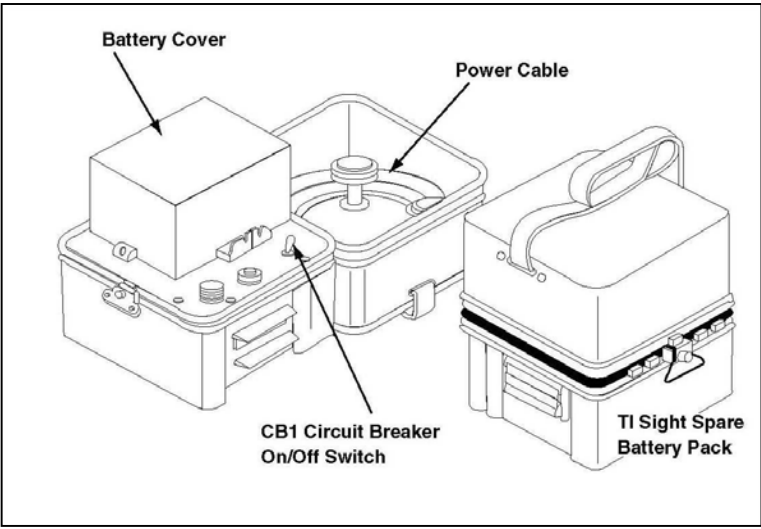

Figure 2-2-9: Thermal Imagery Sight Battery Power Conditioner and Spare Battery Pack
to operate the TI sight when the TOW 2 is not installed in a motor vehicle equipped with a vehicle power conditioner. The power is provided by two non-rechargeable lithium batteries that are replaced when exhausted. The battery power conditioner has a CB1 circuit breaker On/Off switch that turns on the power to the TI sight and protects it from current overload. The battery power conditioner comes with its own power cable that is stored in the cover (see Figure 2-2-9).
24. **Thermal Imagery Sight Spare Battery Pack.** (Figure 2-2-9) The TI sight spare battery pack is used to carry the two spare lithium batteries for the TI sight when the TOW 2 is employed in the ground-mounted role. It weighs 3.9 kg with batteries. The lithium batteries are each of 24 V dc. Most of this power (16.8 V dc) is for the closed-cycle cooler. The sight itself uses 4.8 V dc.